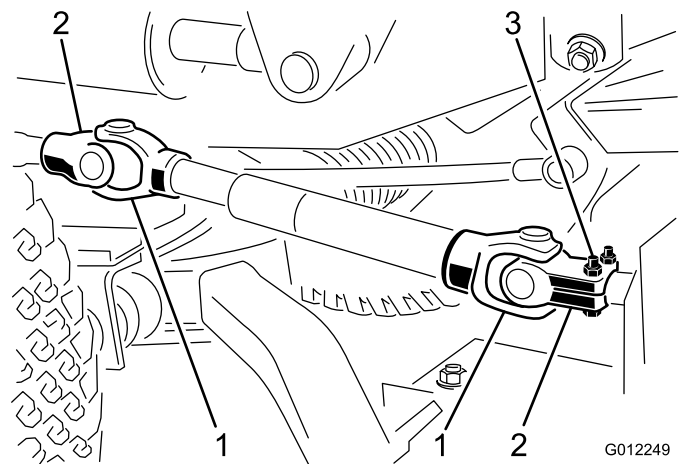

Figure 8
- Line up the holes in the yoke and input shaft of the gear box. Slide the yoke onto the shaft and secure them together with a roll pin and 2 capscrews (5/16 x 1-3/4 inches) and locknuts (5/16 inch) (Figure 8).